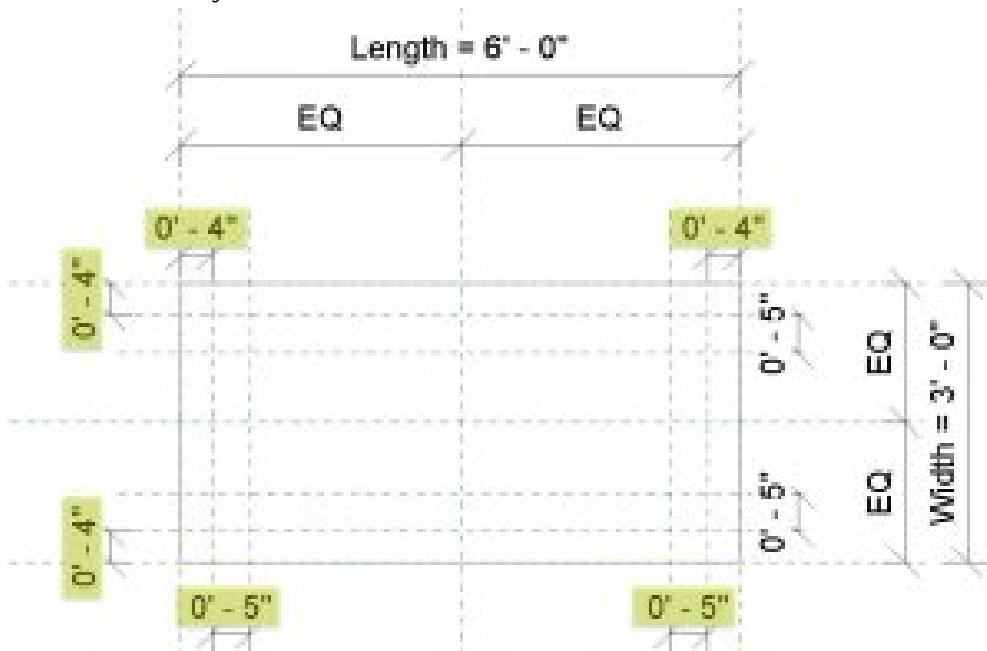

Figure 5.7 Highlighted dimensions shown are locked
1. Create a second set of reference lines following Figure 5.7
3. Under the Modify tab, use the Aligned Dimensions icon  to add dimensions as shown in Figure 5.7
4. Select each of the highlighted dimensions individually (as shown in Figure 5.7) and click the unlock symbol to Lock it